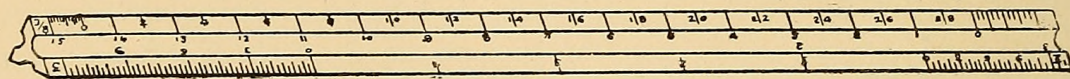

FIG. 101. — A Triangular Scale.
**Scale** may be purchased. One of these is a time saver in making scale drawings. Some scales are made flat like a ruler, while others are triangular in shape as shown in Fig. 101. Upon the triangular scales eleven sets of graduations are provided—12" (full size), 3", 1½", 1",  $\frac{3}{4}$ ",  $\frac{1}{2}$ ",  $\frac{3}{8}$ ",  $\frac{1}{4}$ ",  $\frac{3}{16}$ ",  $\frac{1}{8}$ ", and  $\frac{3}{32}$ ". In the illustration the  $\frac{3}{8}$ " and  $\frac{3}{4}$ " graduations are shown along one edge and 3" and 1½" divisions along the other. Each end division